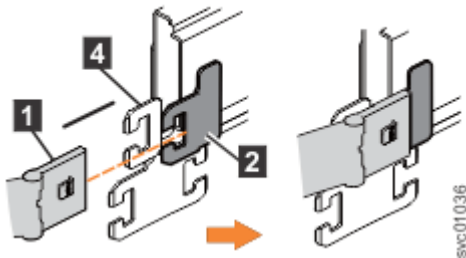

Figure 43. Install the inner connector of the upper CMA to the inner member of the support rail
2. Install the inner connector of the upper CMA assembly (1) to the inner member of the left support rail (2), as shown in Figure 43 on page 58.